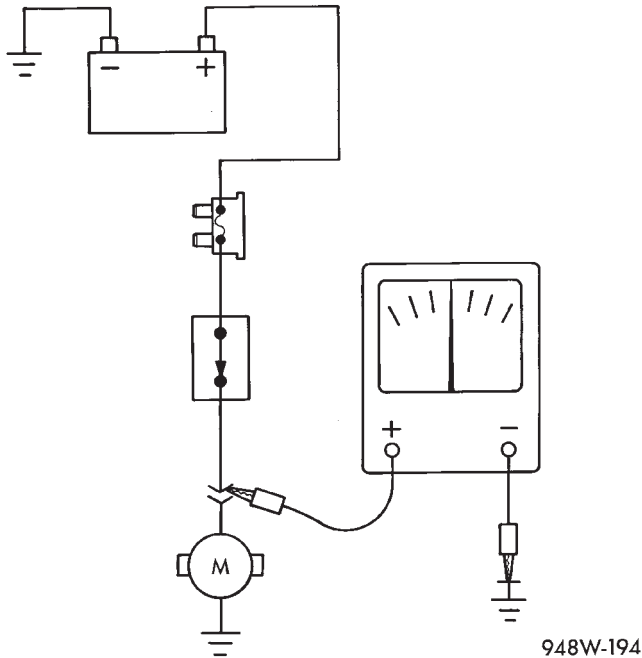

Fig. 8 Testing for Voltage
(1) Connect the ground lead of a voltmeter to a known good ground (Fig. 8).
(2) Connect the other lead of the voltmeter to the selected test point. The vehicle ignition may need to be turned ON to check voltage. Refer to the appropriate test procedure.